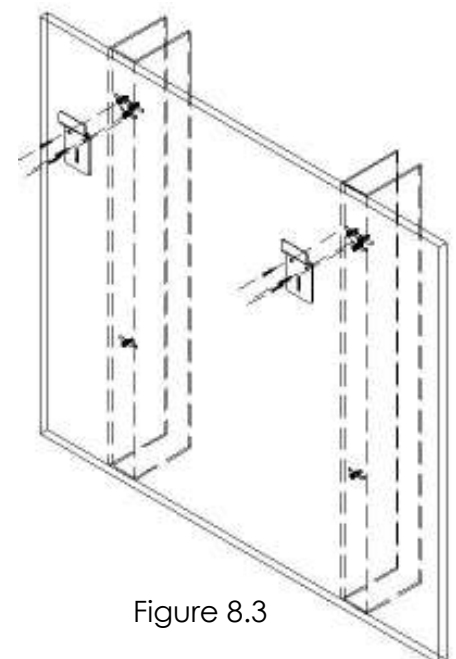

Figure 8.3
- 6) Secure the Wall Bracket (**G**) to the wall by securely tightening six screws (**A**) (see figure 8.3).